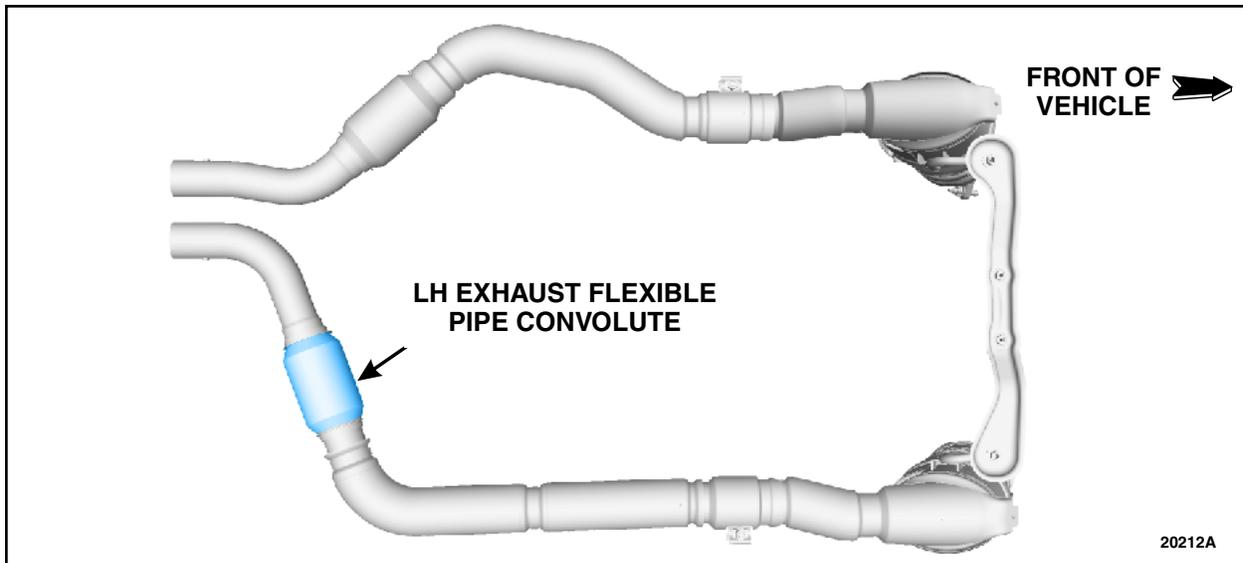

FIGURE 1
1. Inspect the Left Hand (LH) exhaust flexible pipe convolute for cracks or leaks. Were any cracks or leaks found at the LH exhaust flexible pipe convolute? See Figures 1 and 2.